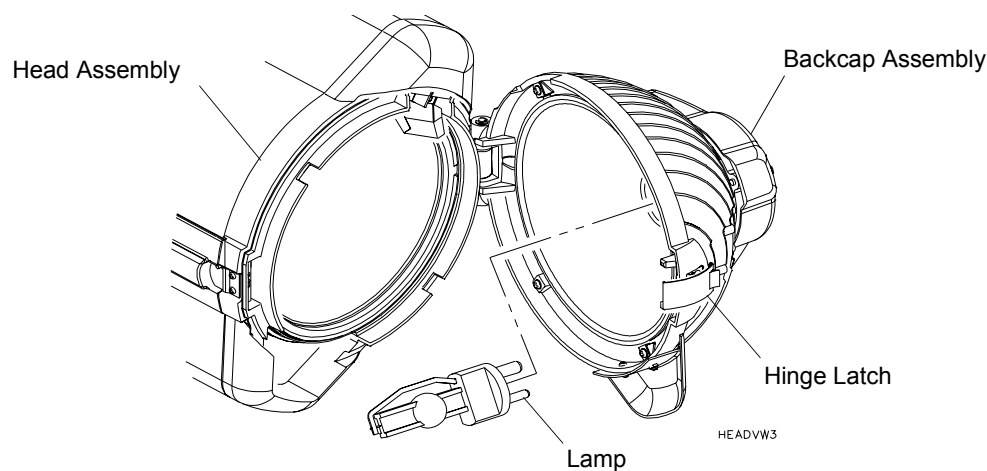

Figure 2-3: Lamp Replacement
Step 2. At backcap assembly unlatch hinge and swing open. **Figure 2-3.**